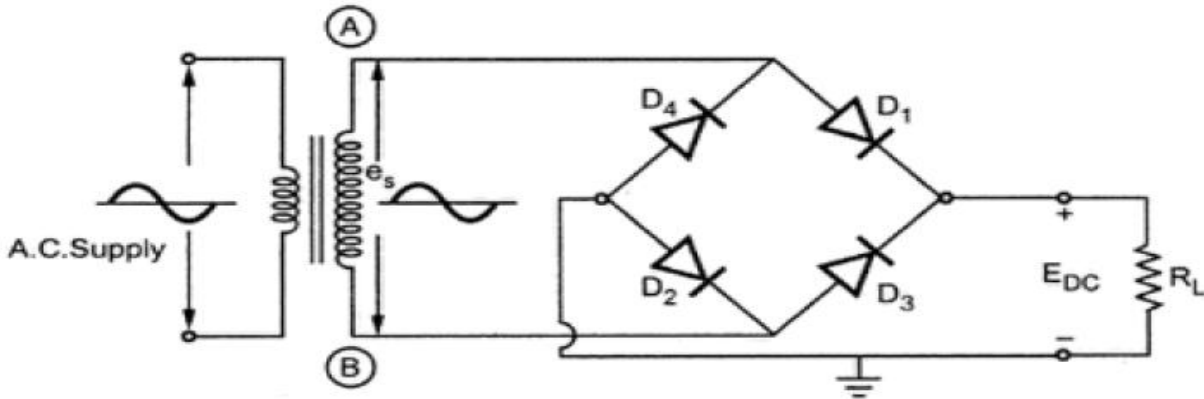

Fig. 1.30 Bridge Rectifier
- The bridge rectifier circuit is essentially a full wave rectifier circuit, using four diodes, forming the four arms of an electrical bridge and is shown in figure 1.30.